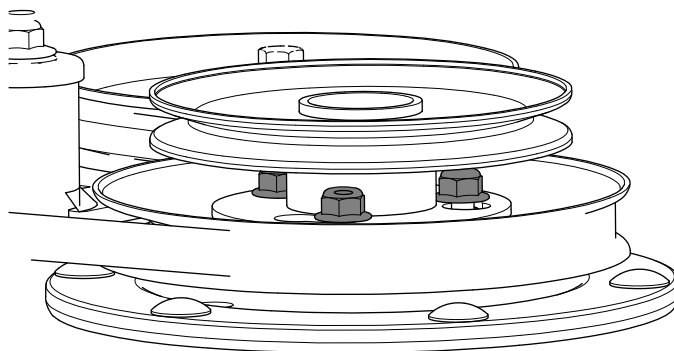

Figure 6
3. Turn the pulley to lock it into position and install the flange nuts (Figure 6).